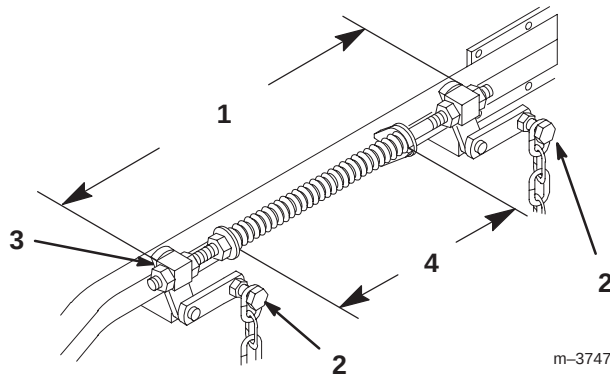

Figure 62
- Loosen four (4) top chain bolts in slots. Check the length of the rod/swivel assemblies. Distance from outside of rear swivel to outside of front swivel should be 19-17/32 inch (496 mm) (Fig. 62). Make sure that all four swivels move freely in holes.
2. Springs are compressed so the distance between the two large washers should be 10–1/4 inch (260 mm) (Fig. 62).
3. Adjust by turning nut in front of each spring (Fig. 62). Clockwise will shorten spring; counter-clockwise will lengthen spring.